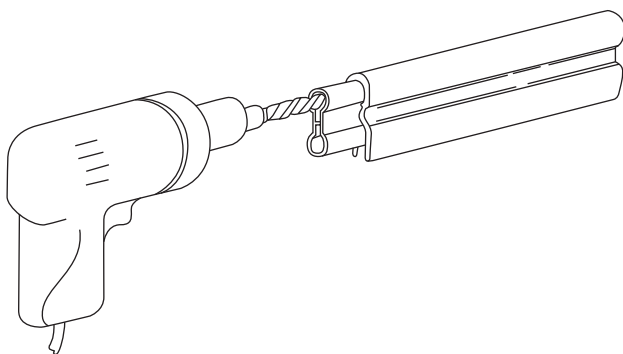

Figure: 10-1
10.0.4 Ream conductor lobes. See **Figure 10-1**.